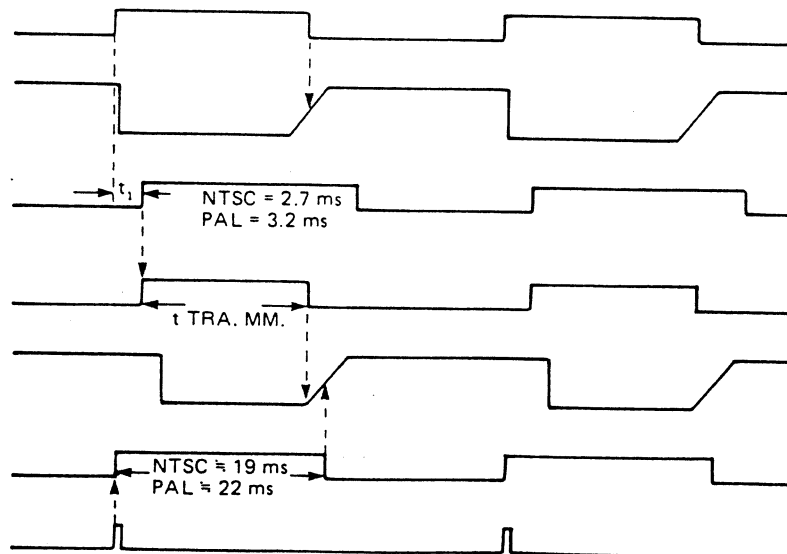

Figure 3-2 Timing chart of drum/capstan phase servo loop
Figure 3-2 shows the timing chart of the servo phase loop. The output pulse from pin ②⑦ of IC 702 has the duty of 50% so far as the control is made with the desired phase. However, the duty of the pulse from pin ②⑦ is reduced when the phase of the drum rotation is lagged behind the target in the
The purpose of the capstan APC servo loop is to make the phase control for the video head on the basis of the playback control signal so that the video head will always trace the center of the video track during PLAY mode. As shown in Figure 3-2 (Timing chart), X-shift waveform signal which is synchronized with the drum phase reference signal of trapezoidal wave is sent to pin ⑩ of IC703 (AN6346N), where it experiences the tracking adjustment with the tracking monomulti-vibrator.